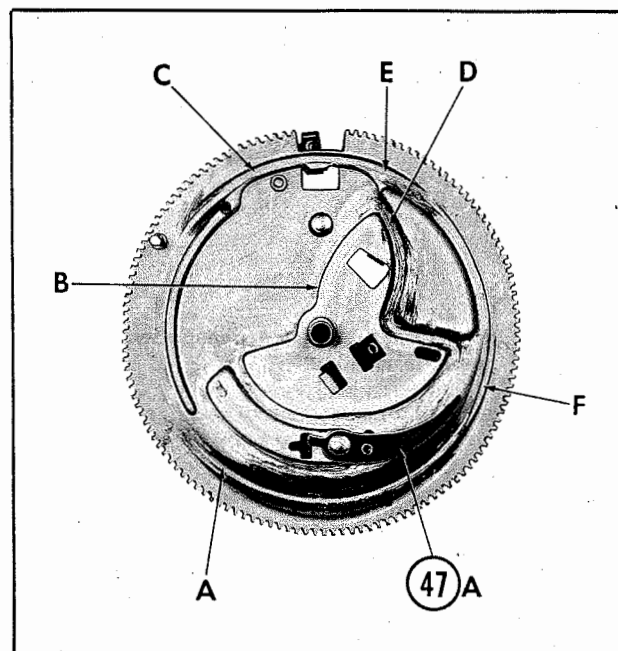

Figure 3. Top View of Cam Gear
As cam gear (47) begins to rotate, lift pin (40) travels up the cam incline (point "A", Fig. 3). When the lift pin reaches the top of the incline, the follower stud on the end of follower arm assembly (36) contacts the cammed surface (point "B", Fig. 3), and pivots the tone arm outward.
When the tone arm is positioned over rest post (22), lift pin (40) rides up the small incline (point "C", Fig. 3), raising the cartridge end of the tone arm to the height of a record resting on spindle bolts (4).
The follower stud on follower arm assembly (36) follows the cammed groove (point "D", Fig. 3) in cam gear (47), moving the tone arm inward toward the center of the record.
When a record is resting on spindle bolts (4), the inward travel of the tone arm is stopped by the edge of the record. Since adjusting arm assembly (35) is permanently staked to tone arm shaft (37), its inward movement is also stopped. However, the follower stud on follower arm assembly (36) continues to follow the cam groove (point "D", Fig. 3) toward the center of the cam gear and then back out. Tension of follower arm spring (38) returns follower arm assembly (36) and adjusting arm assembly (35) to their original positions.
ejecting spring (50) and begins to actuate the spindle, in order to drop the next record. At the same time, lift pin (40) rides down the small incline (point "E", Fig. 3), lowering the tone arm below the record stack.
As cam gear (47) continues to rotate, the follower stud on follower arm assembly (36) follows along the inside edge of shuttle (47A) to position the tone arm directly above the point of landing. Lift pin (40) rides down the incline (point "F", Fig. 3) of cam gear (47), lowering the tone arm to the record lead-in groove.